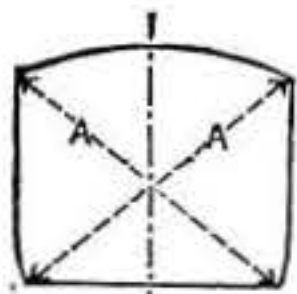

Fig. 1
4 in. diameter and  $\frac{1}{4}$  in. thick, and drilled for wood screws. On these would be screwed discs of wood as large as the lathe will swing over the sole of the rest; these are then fixed on the bar and turned true. In Fig. 1, A, A, are the wooden discs; B is the square bar; C, C, are the iron flanges fixed by set-screws; and D is the catch-plate, or driver chuck. In the discs square or triangular notches are formed, as b, b, according as the work is to be of square or triangular section; they must be exactly opposite to one another, and there may be a dozen or more, according to the size of the discs. The work will be planed up square or triangular, to fit the notches, and secured by a ring, or by wood screws or other means. Now, as to the second question. Your hot-air engine burnt through in a fortnight, and you wish to know how long they ought to last, but you do not say whether yours is only a model, or whether you over-heated it. A properly-made heater ought to last three years. Of course, everything depends on the make, the thickness of metal, the method of heating, and the degree of heat required; with gas heating it will probably last longer than with a coke or coal fire."
**Testing Accuracy of Framework.**—F. C. (Leytonstone) writes:—"With regard to J. S.'s paper in WORK, No. 125, and subsequent letters on the above subject, it may interest some of your readers to know that the method of testing frames by measuring the diagonals is the one used by railway-carriage, tramcar, and waggon builders for setting their axle-guards and framing true; and it will be seen, on referring to the two sketches, that it is by far the simplest method, and may be used where the 3, 4, 5 method could not. Take, for instance, Fig. 1—an outline of the end of a carriage. When the diagonals are of equal length, it is said to